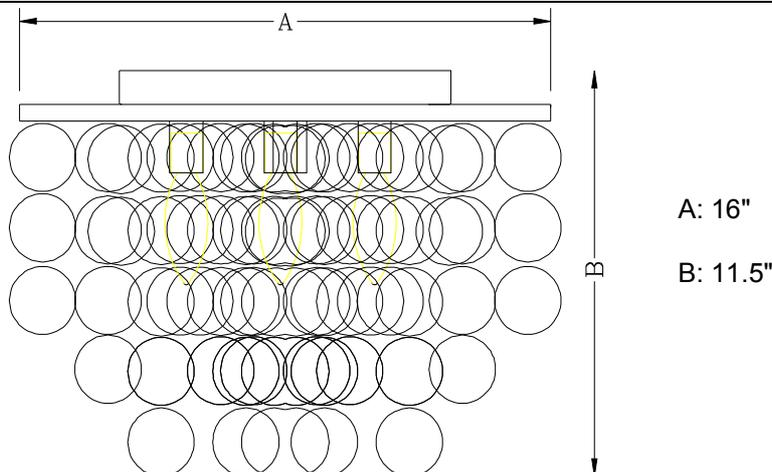

Fig.1
1. Cut the "H" plastic buckles with scissor when take down the PE bags. (See Fig.1)